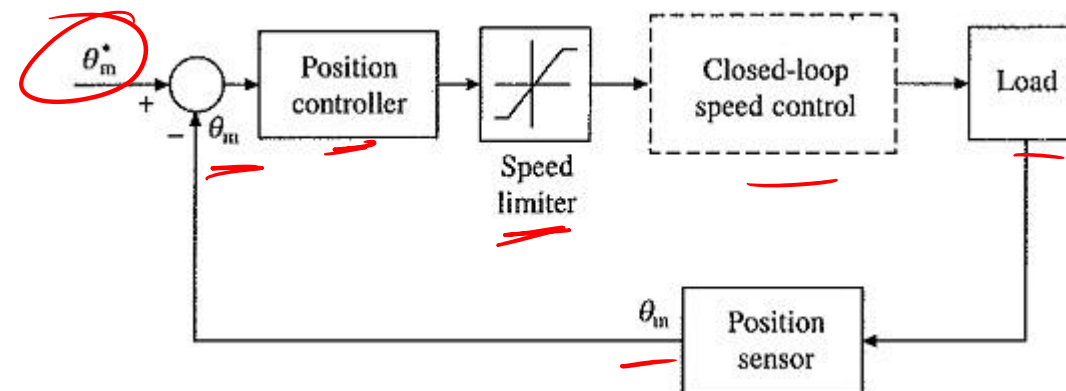

Fig. 6. Closed loop position control.
- A Closed Loop Position Control scheme is shown in Fig. 6.